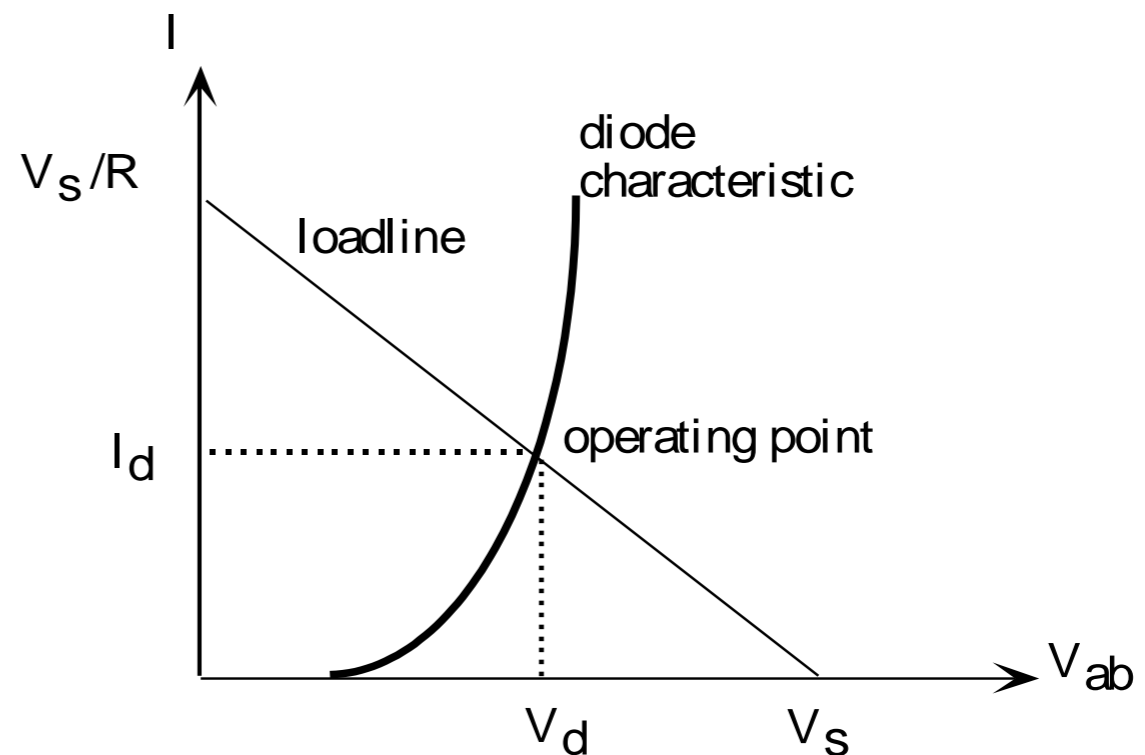

Fig. 3b
- This equation (2) may also be shown on an  $I$ - $V$  plot, as a *load line* in Fig.3b.